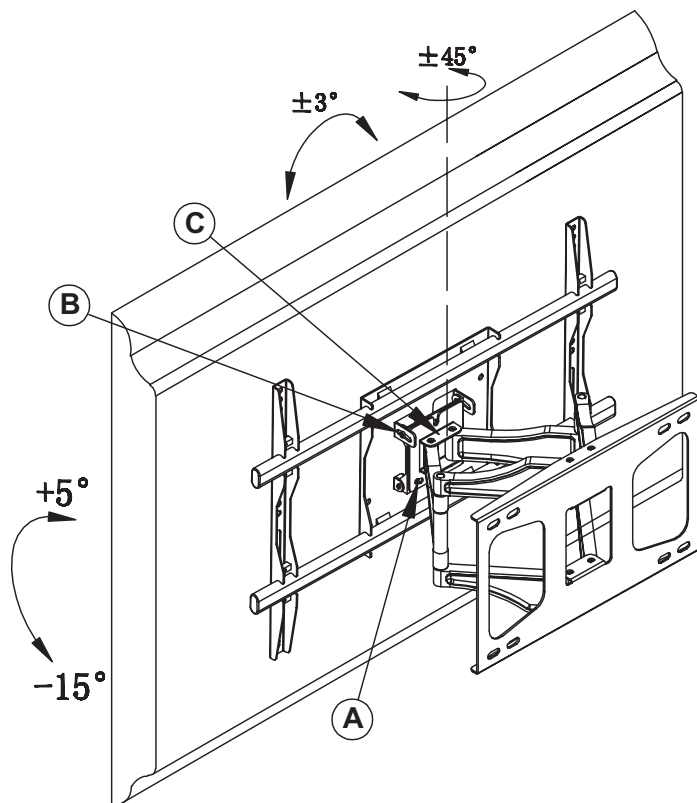

Figure 6 - Adjust Angle
- (A) Locate the two hex head bolts used to secure the TV bracket to the wall mount. These bolts can be loosened and the TV rotated up to 3 degrees clockwise or counter-clockwise. Have another person hold the television in place while you adjust these screws.
- (B) While another person is holding the television assembly, loosen the two screws on either side of the mounting plate and tilt the television up to 5 degrees back or 15 degrees forward. Tighten the screws when the desired angle is achieved.
- (C) With assistance, adjust the main cantilever bracket to move the television out from the wall and angle up to 45 degrees either left or right. Pay attention to wiring to ensure cables are not damaged during angle adjustment. See Figure 6.